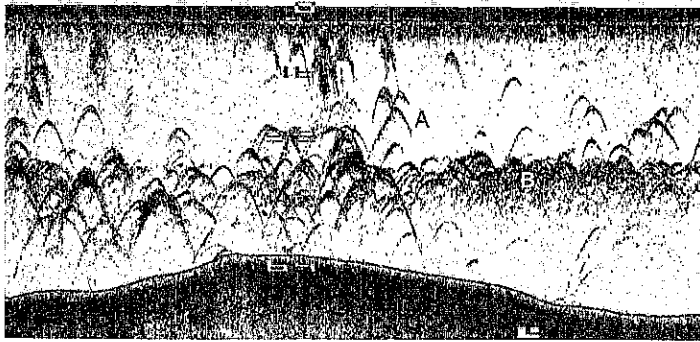

Figure 23
Sharp, well-defined signatures will occur most often when the Sensitivity knob is set at the $\frac{3}{4}$ point or higher. (See (A), Figure 23). Remember, too, that there must be some movement between the fish and boat to develop the arched mark.
to bottom. Layers of different temperatures form, and the junction of a warm and cool layer of water is called a thermocline. The depth and thickness of the thermocline can vary with the season or time of day. In deep lakes there may be two or more, at different depths. Thermoclines are important to the fisherman because they are areas which fish are active. Many times bait fish will be above the thermocline while larger game fish suspend just below it. (See (B), Figure 23.)